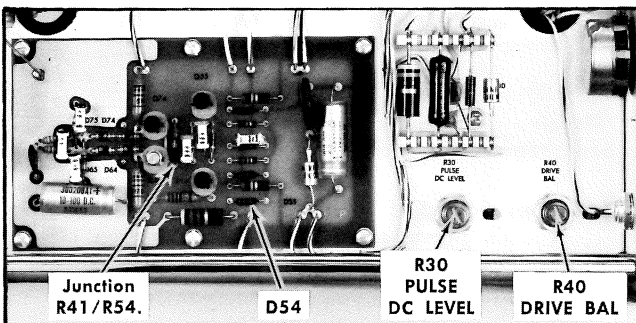

Fig. 6-2. Left side of 067-0521-00 showing calibration adjustments and test points.
- a. Set the ohmmeter to the 1-ohm scale and check the in-circuit resistance across D54 for approximately 5 ohms in one direction; infinite in the other direction. See Fig. 6-2 for location of D54.
- d. Adjust DRIVE BAL R40 (see Fig. 6-2) if the amplitudes are not equal.
- e. Connect the dc voltmeter between chassis ground and the junction of R54 and R41 (see Fig. 6-2).